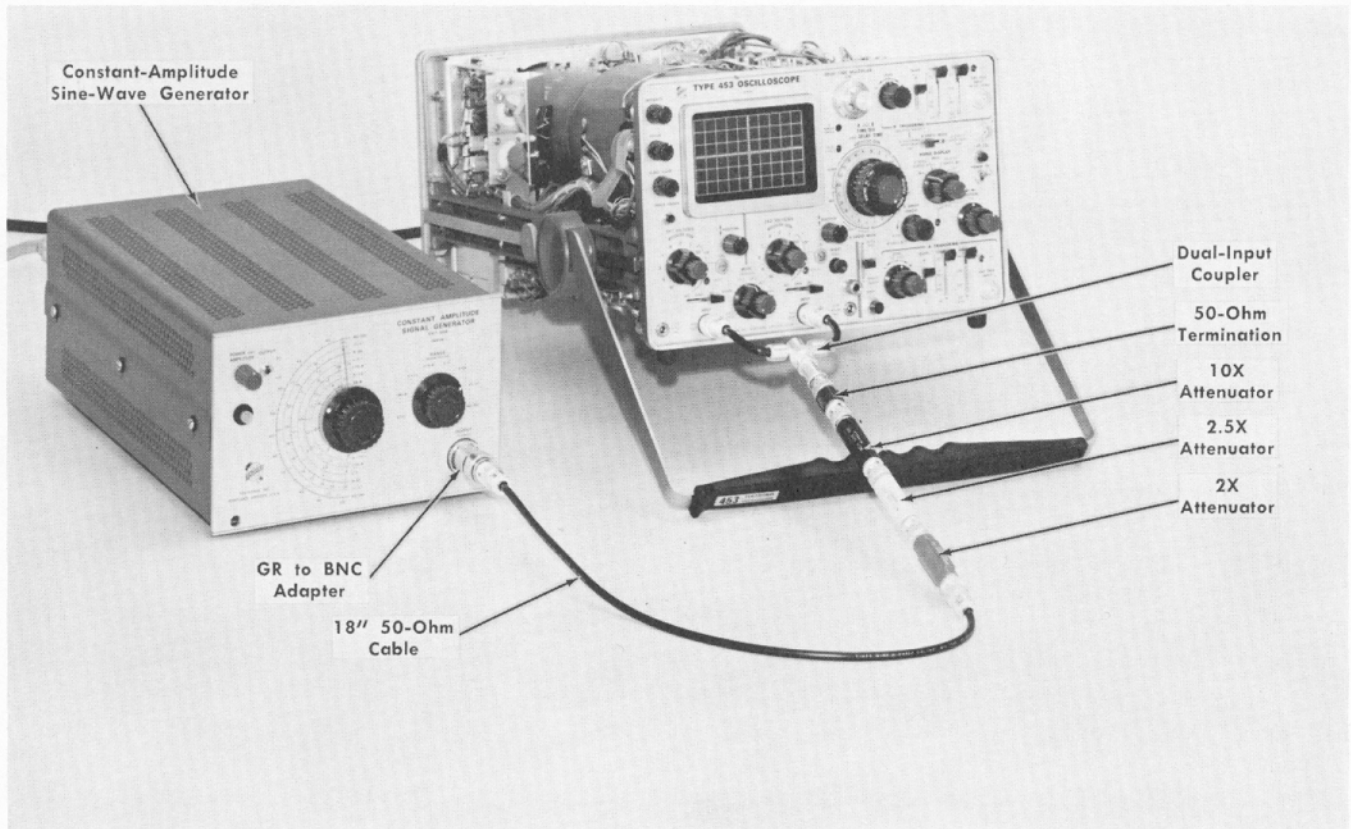

Fig. 6-31. Test equipment setup for step 28.
a. Test equipment setup is shown in Fig. 6-31.